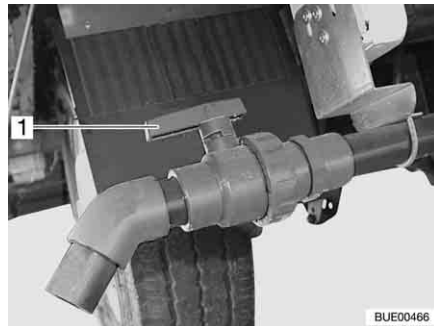

Fig. 207 Drain cock
- Turn the handle (Fig. 207,1) of the drain cock in flow direction.